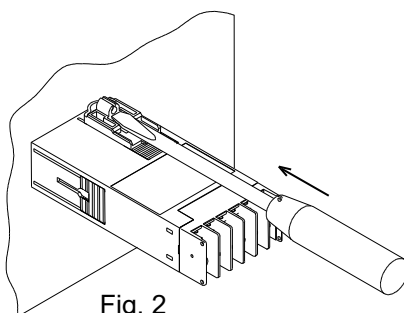

Fig. 2
4. Push the mounting bracket forward with a blade screwdriver until the bracket is firmly secured to the panel. (Fig. 2)